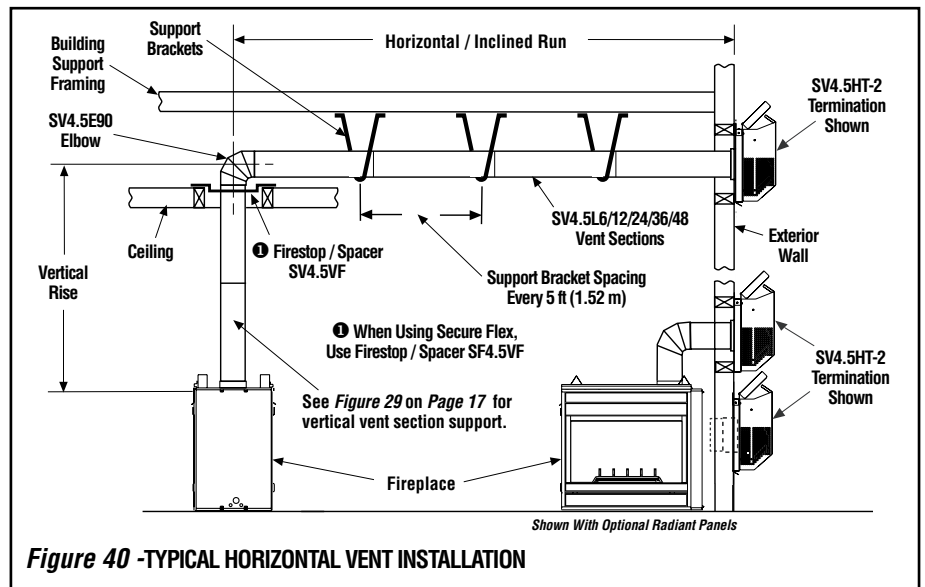

Figure 40 - TYPICAL HORIZONTAL VENT INSTALLATION
Figures 40, and Figures 43 to 48 on pages 23 to 25 and their associated Horizontal Vent Table illustrate the various horizontal venting configurations that are possible for use with these appliances. **Secure Vent** pipe applications are shown in these figures; **Secure Flex** pipe may also be used. A Horizontal Vent Table summarizes each system's minimum and maximum vertical and horizontal length values that can be used to design and install the vent components in a variety of applications.
I. Continue installation of horizontal/inclined sections - Continue with the installation of the straight vent sections in horizontal/inclined run as described in **Step E**. Install support straps every 5 ft. (1.52 m) along horizontal/inclined vent runs using conventional plumber's tape. See **Figure 40**, it is very important that the horizontal/inclined run be maintained in a straight (no dips) and recommended to be in a slightly elevated plane, in a direction away from the fireplace of 1/4" rise per foot (20 mm per meter) which is ideal, though rise per foot run ratios that are smaller are acceptable all the way down to at or near level. Use a carpenter's level to measure from a constant surface and adjust the support straps as necessary.